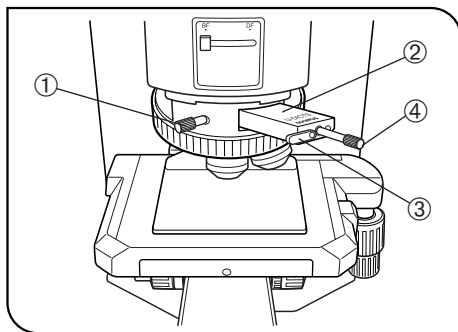

Fig. 12
2 Setting the DIC Slider (Fig. 12)
(Fig. 12)
1. Adjust the background contrast by turning the slider movement knob ④ on the DIC slider as described below. (Fig. 12)
4 Switching to Brightfield/Darkfield Observation (Fig. 12)